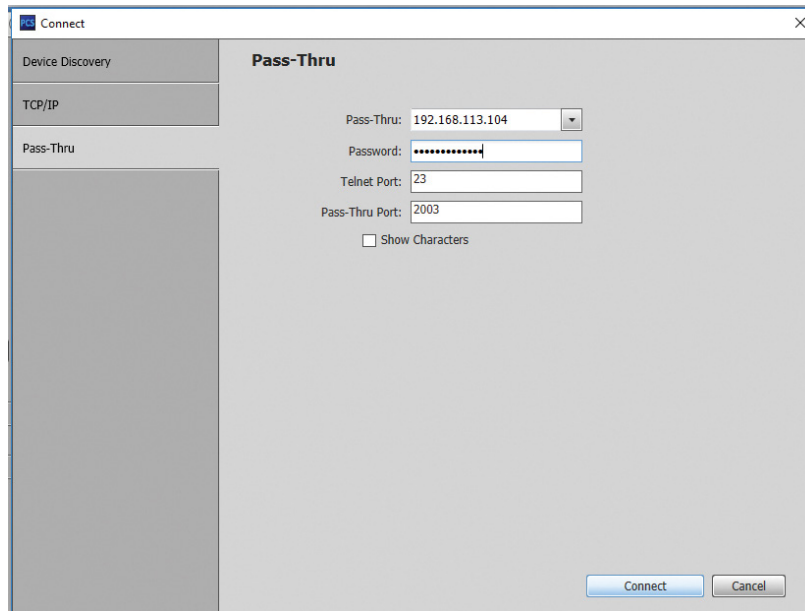

Figure 23. Example Connection via Pass-Thru Option
- a. Click the **Pass-Thru** tab. The **Pass-Thru** panel appears (see figure 23 on the next page).